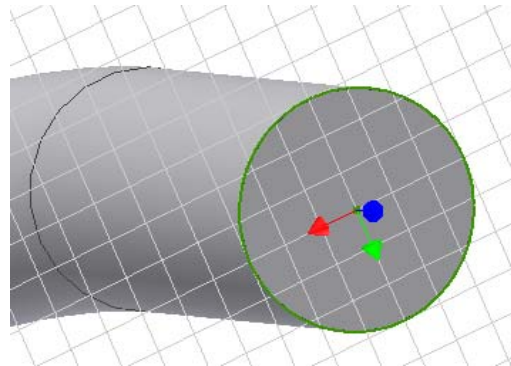

Figure Step 16
**Step 16** Start a new sketch at the end of the cylinder you just created as shown in Figure Step 16. Finish the sketch.